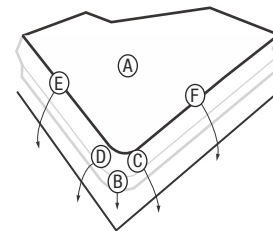

Figure 14. Apply the Product on the corner
3. Apply the Product to the flat surface before conforming the corners and then along the straight edges in this sequence: A, then B, C and D, then E and F, etc. See Figure 14.